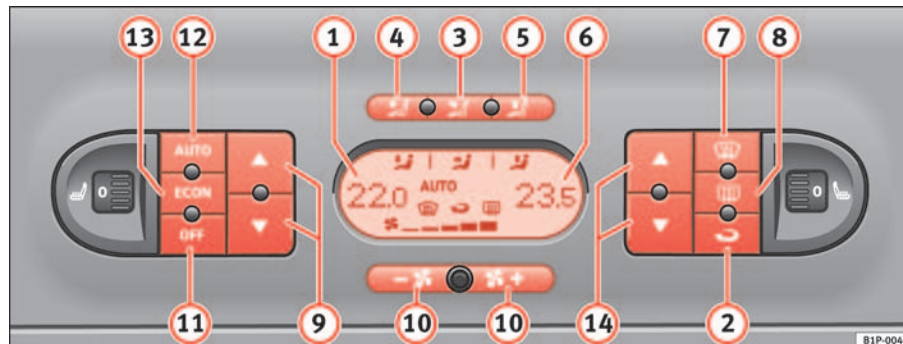

Fig. 108 On the dash panel: 2C Climatronic controls
- To enter manual mode, press one of the buttons ⇒ fig. 108 (3) to
(5), **ECON** or press the air flow control (10). The symbol **AUTO** will disappear from the display. ▶
- Press the button  ⇒ page 143, fig. 108  to switch air recirculation mode on or off. It is switched on if the following symbol appears in the display .